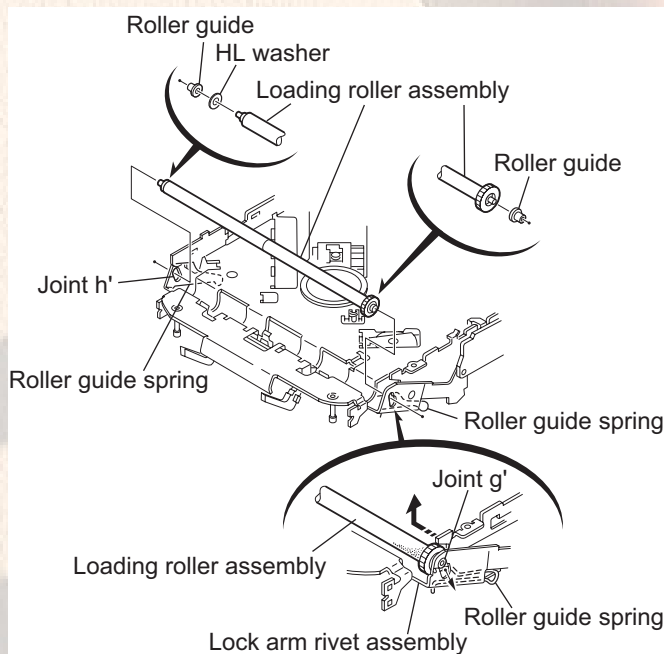

Fig.31
3.2.15 Removing the loading roller assembly (See Figs.31 to 33)